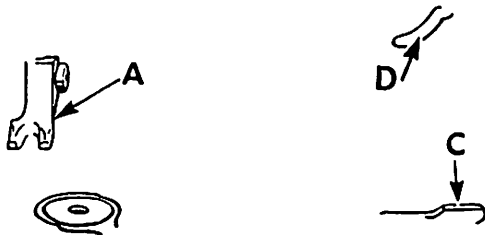

Fig. 7. Taking out the Shuttle
Raise needle bar to its highest point and lift feeding foot **A**, Fig. 7 by moving lifter **B**, Fig. 5 upward.
Press down lever **C**, Fig. 7 and swing needle plate around as shown.
**NOTE:** For 29K172 machine, move bobbin retaining spring **D**, Fig. 7 outward before taking out the bobbin.